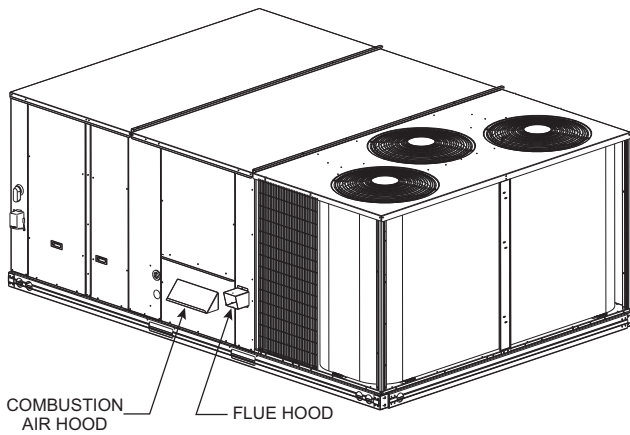

Fig. 16 — Flue Hood and Combustion Air Hood Details
Step 8 — Install Flue Hood and Combustion Air Hood — The flue hood is shipped screwed to the fan deck inside the burner compartment. Remove the burner access panel and then remove the flue hood from its shipping location. Using the screws provided, install flue hood in the location shown in Fig. 16.
The combustion air hood is attached to the back of the burner access panel. Remove the two screws securing the hood to the back of the burner access panel. Using the two screws, re-attach the hood to the front of the burner access panel as shown in Fig. 16.